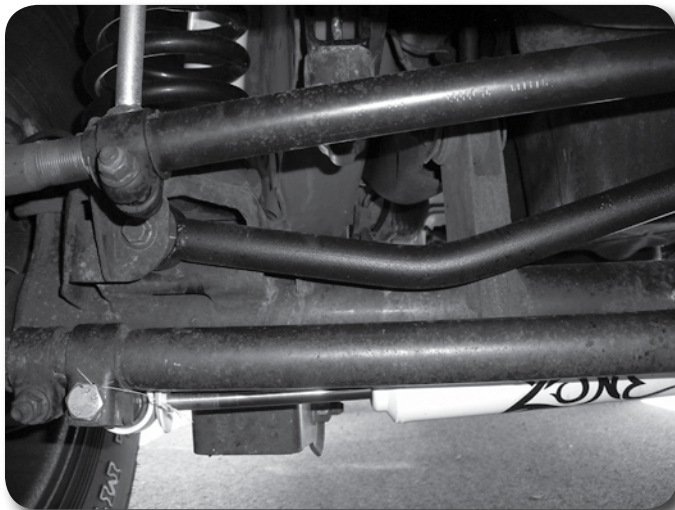

Figure 10
23. Install the fixed end of the track bar in the passenger's side axle mount so the bend in the bar is toward the floor. **Figure 10** Loosely fasten the track bar in place with a 12mm x 70mm bolt and 1/2" SAE washer into the factory welded nut.